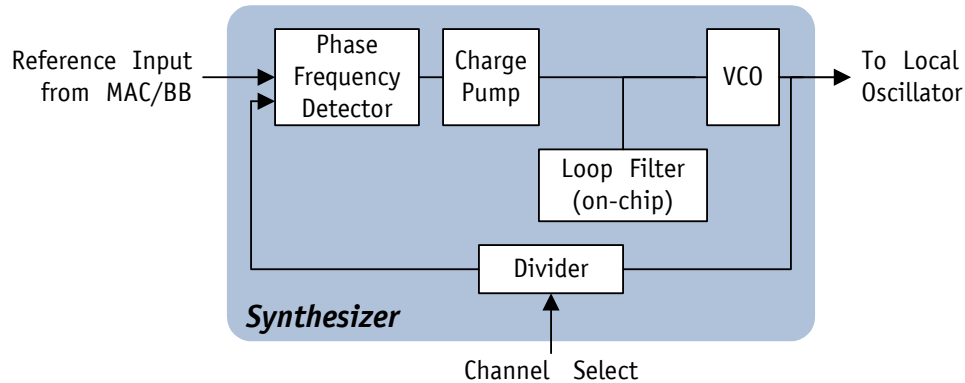

Figure 5-4. Radio Synthesizer Block Diagram
The radio supports one on-chip synthesizer to generate local oscillator (LO) frequencies for the receiver and transmitter mixers. The synthesizer has the topology shown in Figure 5-4.